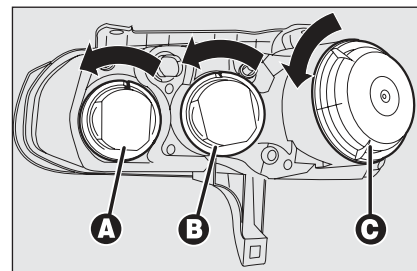

fig. 25/a
- ☐ remove cover **A-fig. 25/a** by turning it counter-clockwise;